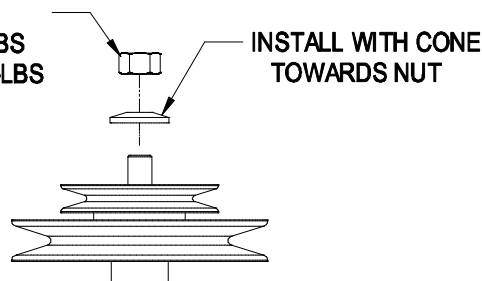

FIGURE 7
- g) Install the double sheave (Item 23) onto the right spindle shaft. Install the spring disk washer and nut removed in Step e). Make sure that the spring disk washer cone is installed towards nut (See Figure 7). Torque the sheave nut to: